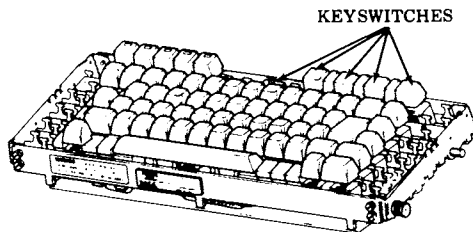

Fig. 13—Keyswitch Identification
- Remove the INTERLOCK, PRINTER TEST, PARITY, DUPLEX and CPS keyswitches (Fig. 13).